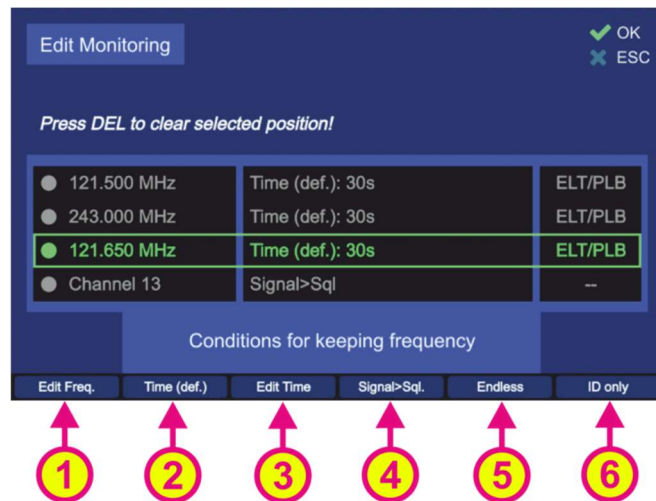
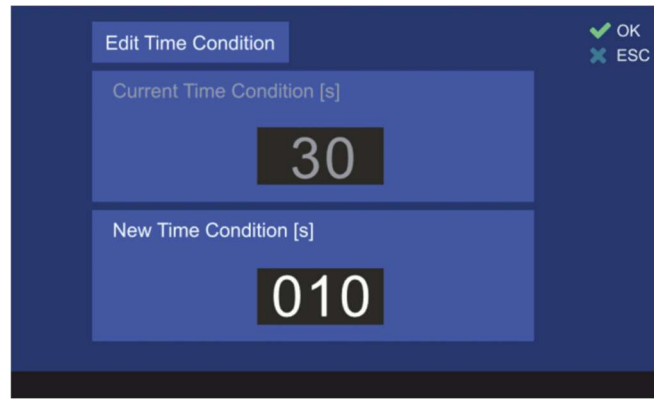

Figure 37. Monitoring mode settings
Figure 39. Hold time setting
In order to activate the emergency transmitter filtering function see 7.2.2.4 (Figure 37, position 6).
- Pressing the hotkey “Edit Scan” (s. Figure 24, position 6) opens the dialog for changing the monitoring settings (s. Figure 37).
- The hotkey “Edit Freq.” (s. Figure 37, position 1) opens the dialog which allows the modification of the currently marked frequency.
- Pressing the hotkey „Time (def)“ (s. Figure 37, position 2) will set the hold time (duration of staying in the scanning on this particular frequency) to the default value of 30 seconds.
- Pressing the hotkey “Edit Time” (s. Figure 37, position 3) will open the sub-dialog for changing the hold time to the customized value (s. Figure 39). Use the number keys of the DCU keypad to type the new value in and confirm it with “OK”.
- The hotkey “Signal > Sqi” defines the behavior of the monitoring algorithm to “signal level > squelch level” (s. Figure 37, position 4).
- The hotkey “Endless” (s. Figure 37, position 5) defines the behavior of the monitoring algorithm when an active frequency has been found.
- Pressing the hotkey “ID only” (s. Figure 37, position 6) activates or deactivates the feature “ID Only” (s. 7.2.2.3):